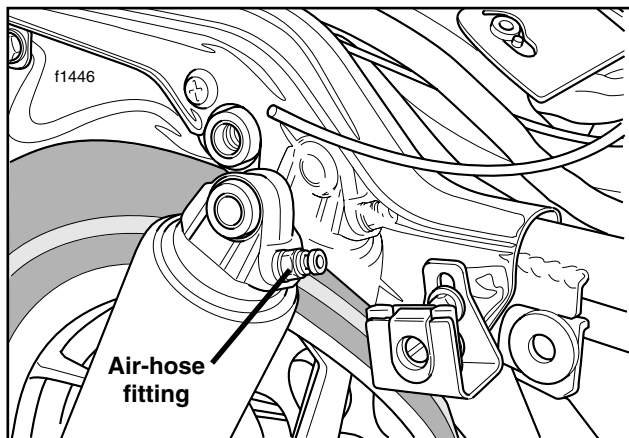
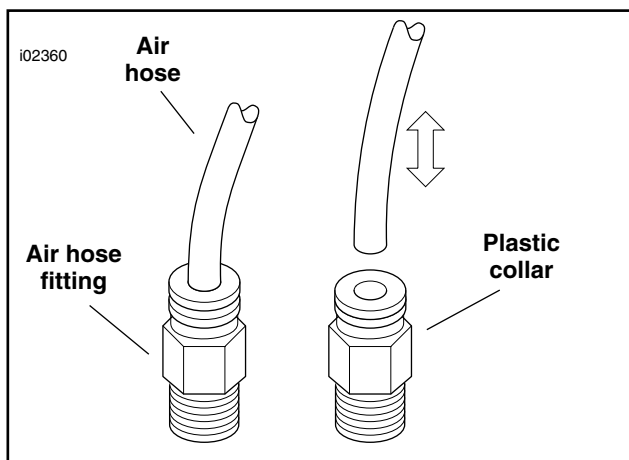

Figure 1. Rear Shock Absorber
Figure 2. Air Hose Removal and Installation
6. See Figure 1 and Figure 2. Remove the air hoses from the shock absorber air-hose fittings.